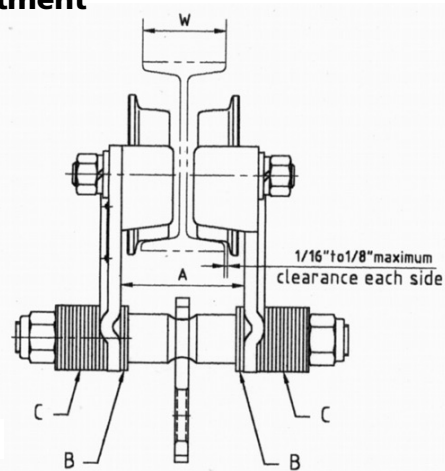

Figure 3
1. The hoisting mechanism must be on the center-line of the hoist trolley. Place equal numbers of the approximately 1/8" thick and 1/16" thick washers on each side of the hanger shaft to obtain the "A" dimension (See Figure 3) between side plates.